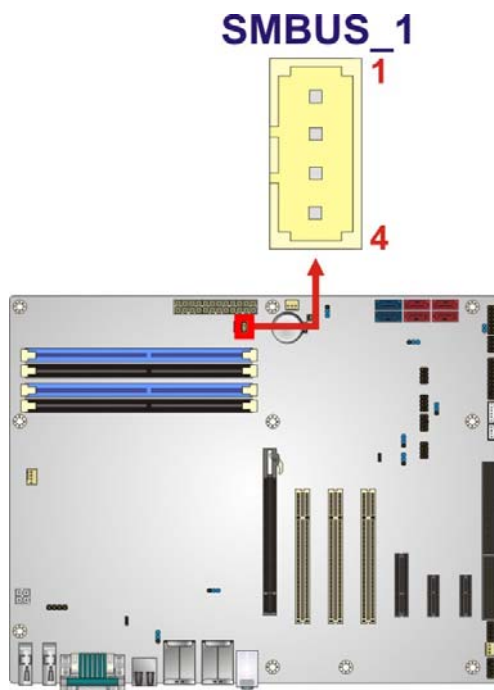

Figure 3-22: SMBus Connector Location
- CN Location:** See **Figure 3-22**